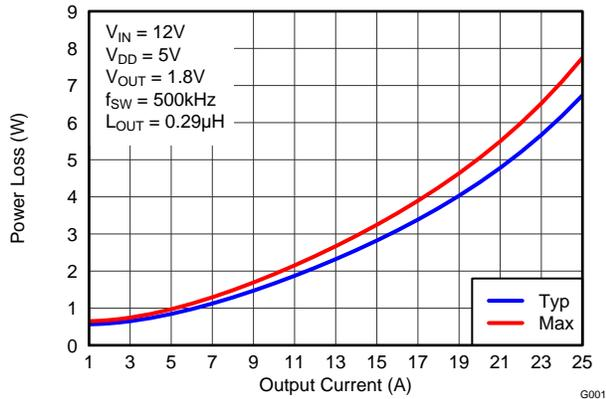
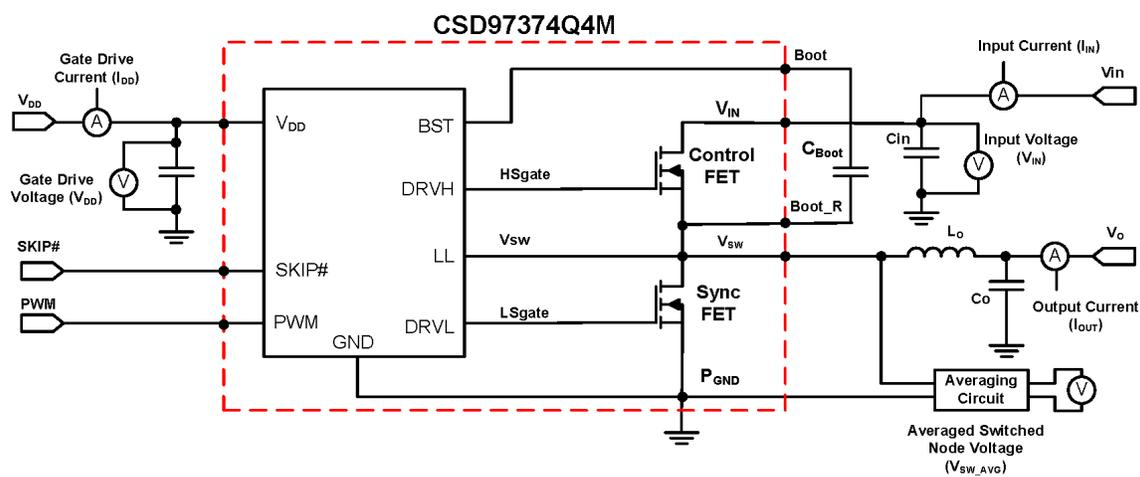

Figure 3. Power Loss vs Output Current
Figure 17. Power Loss Test Circuit
MOSFET centric parameters such as $R_{DS(ON)}$ and Q_{gd} are primarily needed by engineers to estimate the loss generated by the devices. In an effort to simplify the design process for engineers, Texas Instruments has provided measured power loss performance curves. Figure 3 plots the power loss of the CSD97374Q4M as a function of load current. This curve is measured by configuring and running the CSD97374Q4M as it would be in the final application (see Figure 17). The measured power loss is the CSD97374Q4M device power loss which consists of both input conversion loss and gate drive loss. Equation 1 is used to generate the power loss curve.
The power loss curve in Figure 3 is measured at the maximum recommended junction temperature of $T_J = 125^\circ\text{C}$ under isothermal test conditions.
- Typical Power Loss at 15A = 2.8W (Figure 3)